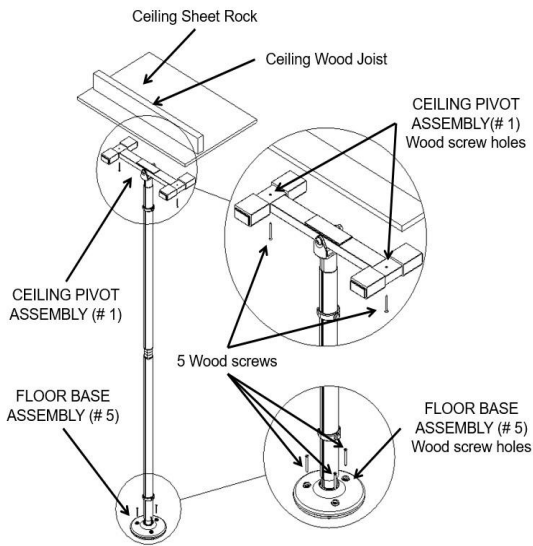

FIGURE 6
6. If the ceiling is sloped relative to the floor, CEILING PIVOT ASSEMBLY (# 1) will need to be secured to the Ceiling Wood Joist with included WOOD SCREWS (# 9), as shown in Figure 6.
If the ceiling is NOT sloped relative to the floor the WOOD SCREWS (# 9) are optional; however, if CEILING PIVOT ASSEMBLY (# 1) and/or FLOOR BASE ASSEMBLY (# 5) move after installation is complete, use WOOD SCREWS (# 9) to secure the product to the floor and ceiling as shown in Figure 6.
**Linoleum or carpeted floors:** If the Floor Base Assembly (# 5) is to be mounted on either Linoleum or carpeted floors, place the WOOD SCREWS (# 9) through the Floor Base Assembly (# 5) holes and secure directly into the wood floor as shown in Figure 6.